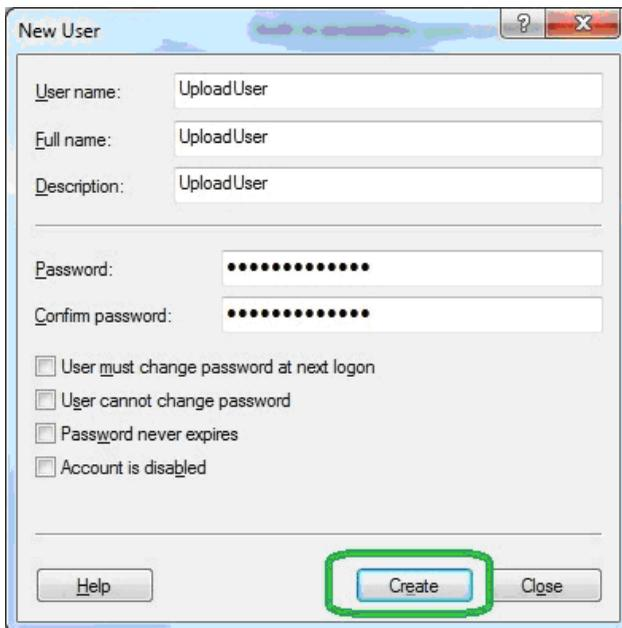

FIGURE 2-22 New User - Create
Step 7 In the **New User** dialog box, provide the user name, full name, description; also, create a password as shown in FIGURE 2-22. The default name for user accounts is **UploadUser**. Do not select any additional options on this dialog box.